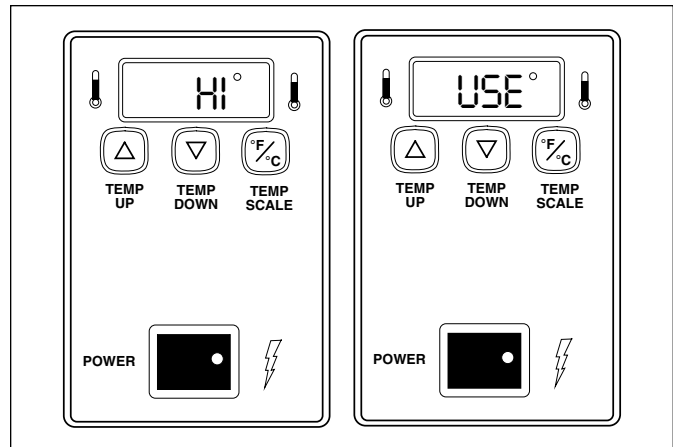

Figure 5. “HI” and “USE” Fault Message
2. Press and hold both **TEMP UP** and **TEMP DOWN** buttons for over 1 second until the display flashes the Platen setpoint temperature (Figure 5), then release.
“HI” and “USE” will flash (Figure 5) if the auxiliary heater’s temperature exceeds 440°F (227°C) or if the auxiliary thermocouple is disconnected or open.